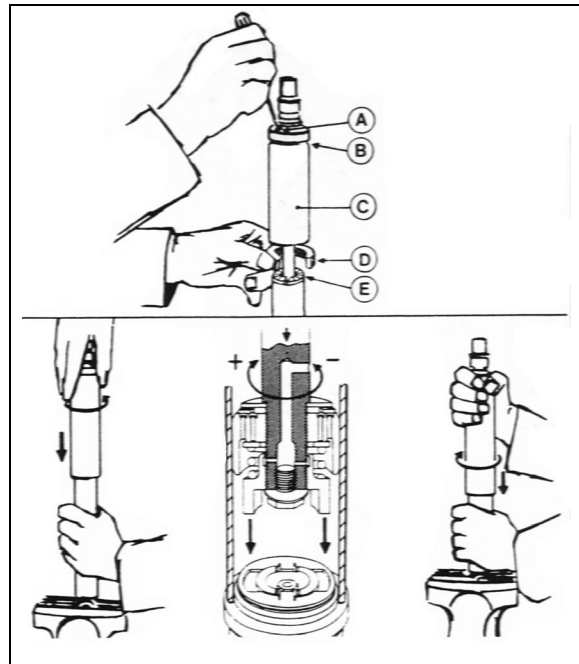

FIGURE 17: DAMPER
To adjust opening and closing cycle speed on damper (Figure 17):
2. Fully close the damper while turning the dust cap or piston rod slowly CCW until it is felt that the cams of the adjusting nut engage in the recesses of the foot valve assembly (Figure 17).
*In Figure 17, if there is an indentation (B) in the dust cap (C) and the cover shows two holes (A), the damper is fitted with a bump rubber (D). If so, fully extend the damper and insert a round bar or screwdriver through the holes. Push the bump rubber down and remove. Remove the split plastic collar (E) (if fitted) from the piston rod.*
Where a bump rubber was installed, refit same inside the dust cap and by fully closing the damper, the rubber will seat again at top of the dust cap. Refit the split plastic collar E (Figure 17)
3. Remove the Allen button head screw and the washer retaining the ball and socket rod to the upper hinge. See Figure 17.
3. Remove the Allen button head screw and the washer retaining the rod end with bearing to upper hinge. See Figure 17.